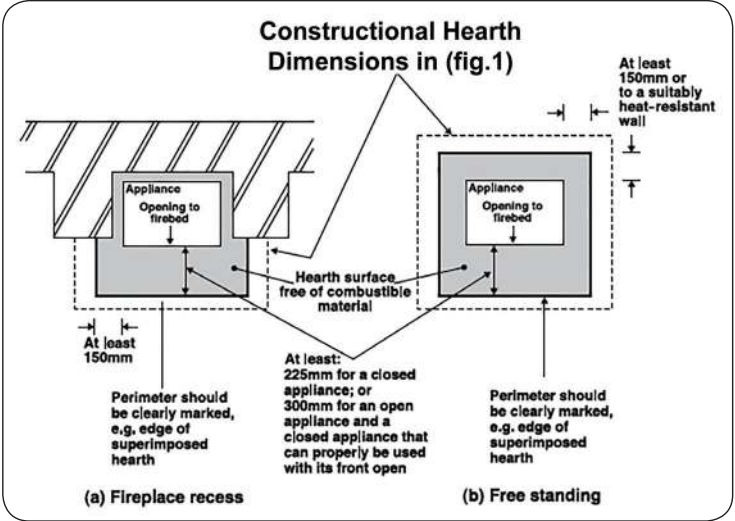

fig.2 Non Combustible Hearth surrounding Solid Fuel Appliance
B. Constructional hearths in accordance with the guidelines outlined. (fig.2)